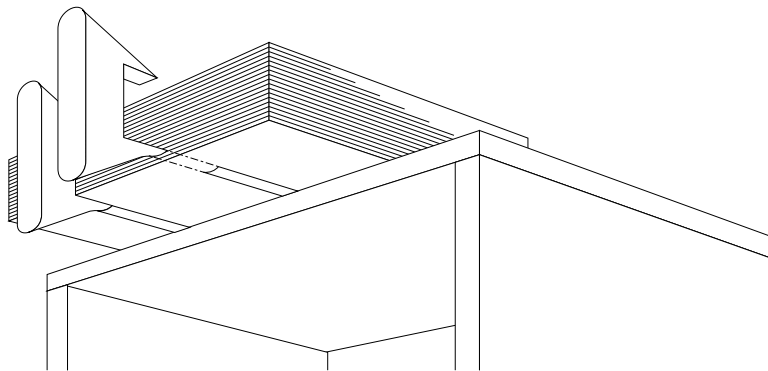

Figure 2-8 Attaching the Workstation Stand to the System
3. Look at the underside of the system. You will see guides for the workstation stand, as shown in Figure 2-8.
4. Press each piece of the workstation stand onto the system, aligning the pieces with the guides, as shown in Figure 2-8.